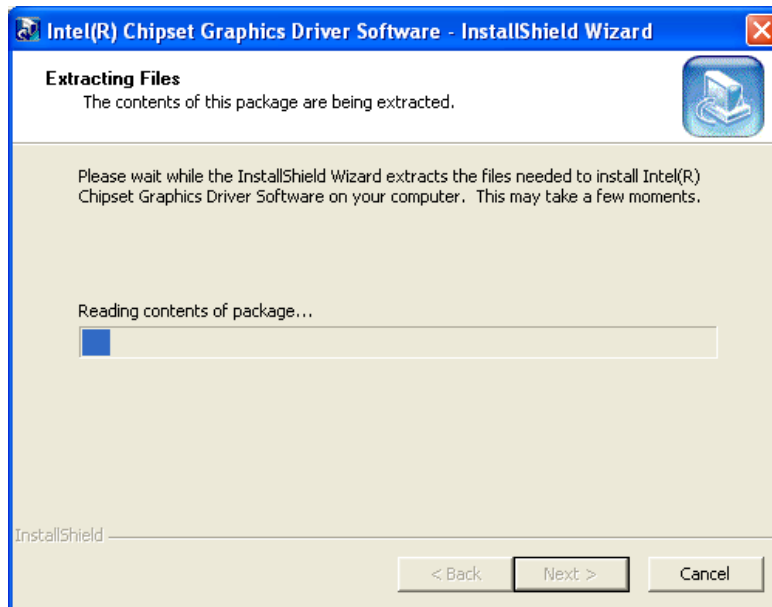

Figure 5-9: Graphics Driver Setup Files Extracted
Step 6: The installation files are extracted. See **Figure 5-9**.